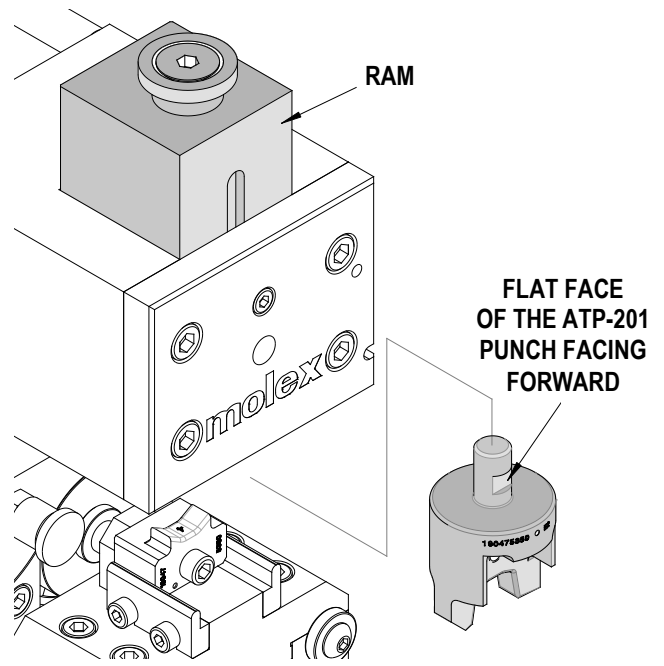

Figure 2-9
- To install the punch assembly, orient the assembly so the flat on the round stub faces forward. Put the stub into the hole in the bottom of the ram and push the punch assembly up against the bottom of the ram. See Figure 2-9.